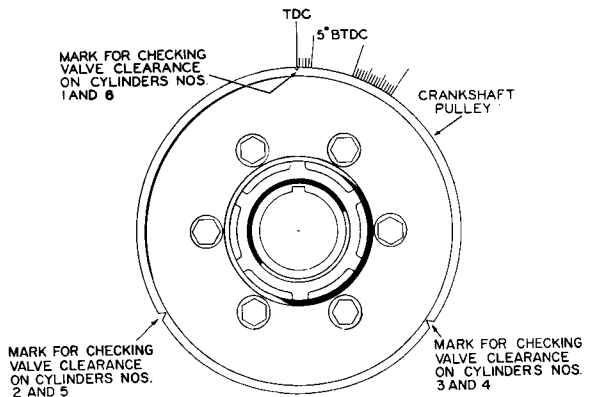

Figure 92
A. Release the engine compression and crank the engine slowly, until the crankshaft pulley is in the position shown in Figure 92. (The 1° to 5° closely spaced marks will be above the pointer and the Top Dead Center mark will be aligned with the pointer).